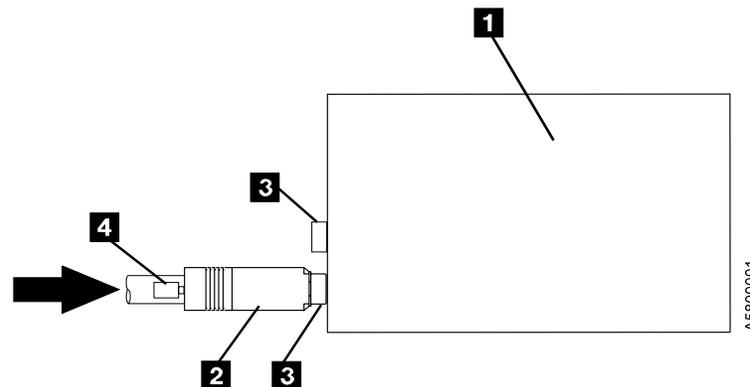

Figure 3. Connecting the SCSI Bus Cable to the 7208 Tape Drive. The view is from the side.
2. On the rear of the 7208 Tape Drive ( **1** in Figure 3), attach the device connector end of the SCSI bus cable **2** to one of the SCSI connectors **3**.